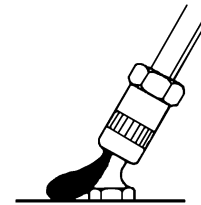

Fig. 7
- 4) Remove the hydro chuck of the grease gun. Since pressure is applied to the hydro chuck, the head of the nipple may be broken if it is suddenly pulled. Incline the hydro chuck to bleed the internal pressure and loosen the claw bite, and the chuck can be easily removed. (Fig. 7)